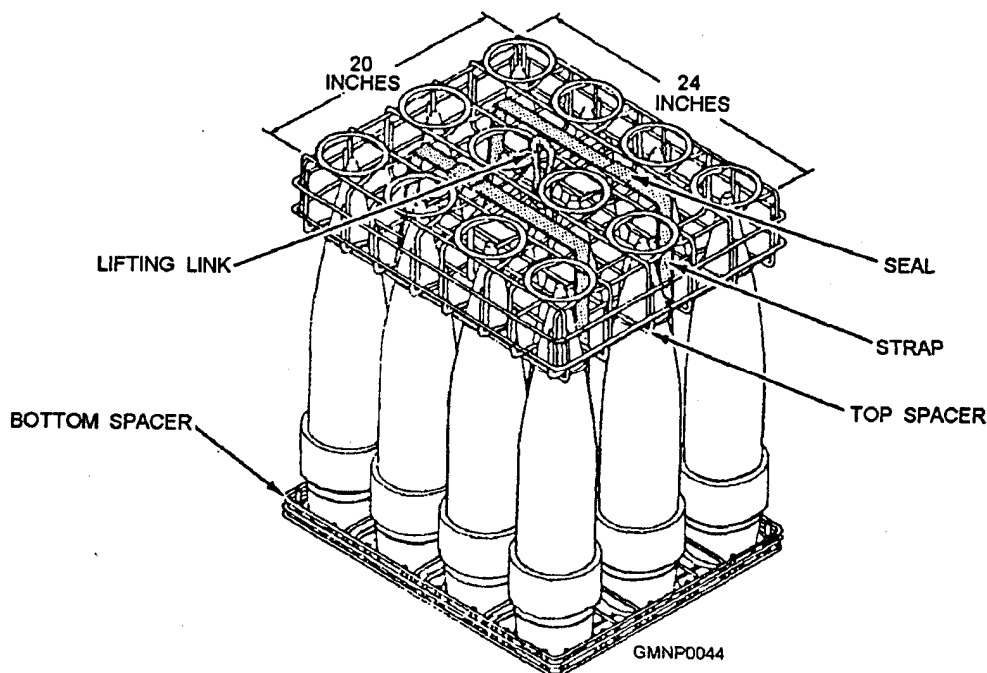

Figure 2-29.—Mk 11 Mod 1 pallet adapter.
**PALLET ADAPTERS.**— The Mk 11 Mod 1 top spacer used with the Mk 11 Mod 1 bottom spacer (fig. 2-29) makes a complete pallet adapter for handling